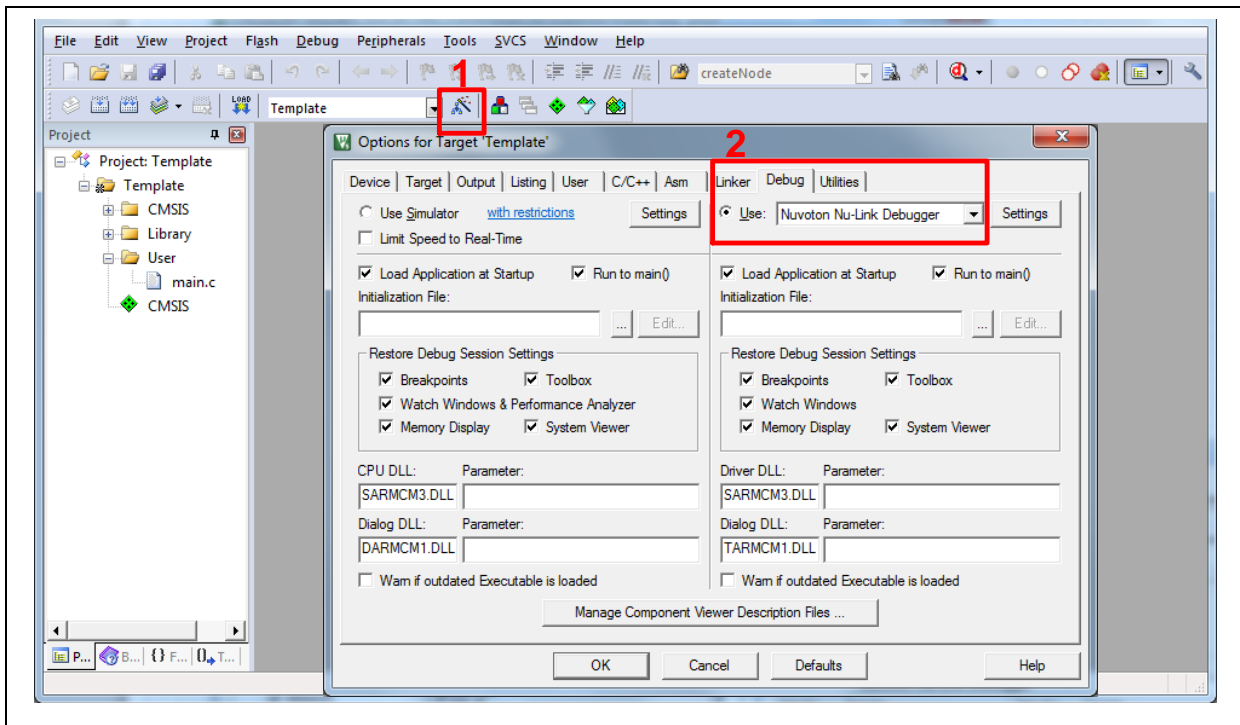
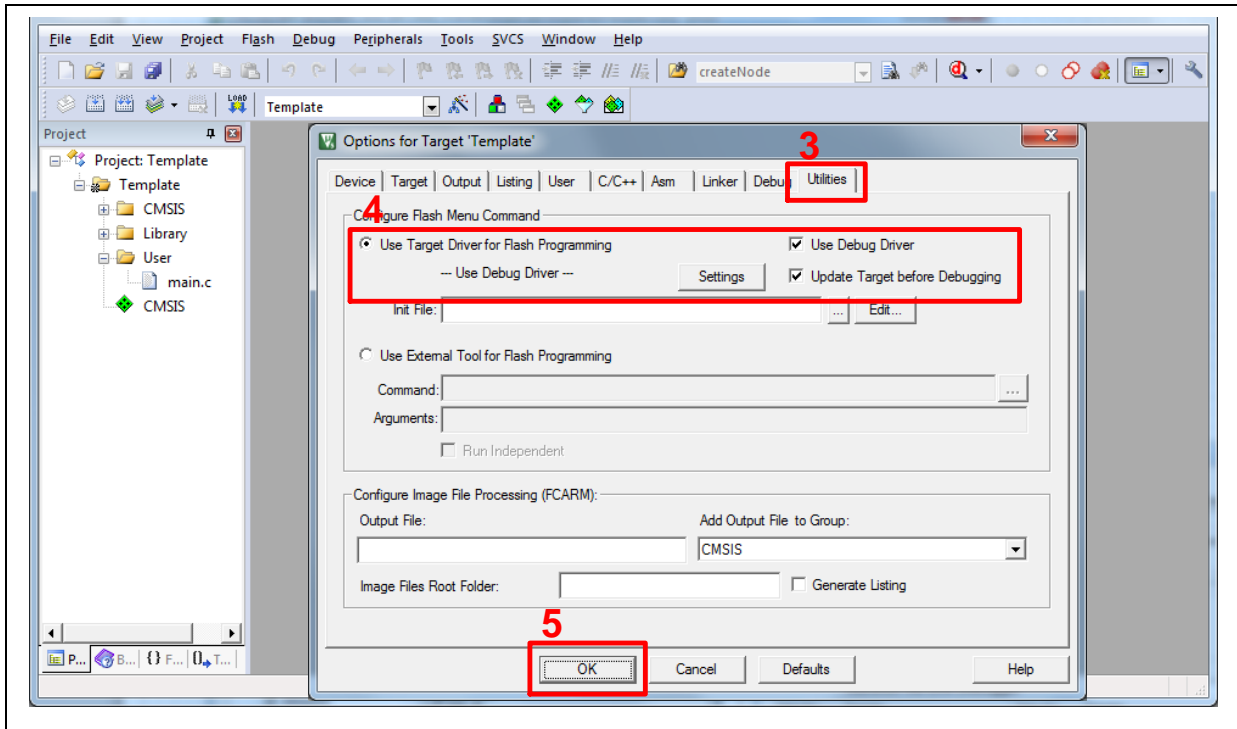

Figure 3-10 Debugger Setting in Options Window
Figure 3-11 Programming Setting in Options Window
- Make sure the debugger is “Nuvoton Nu-Link Debugger” as shown in Figure 3-10 and Figure 3-11.
**Note:** If the dropdown menu in Figure 3-10 does not contain “Nuvoton Nu-Link Debugger” item, please rework section 3.2.